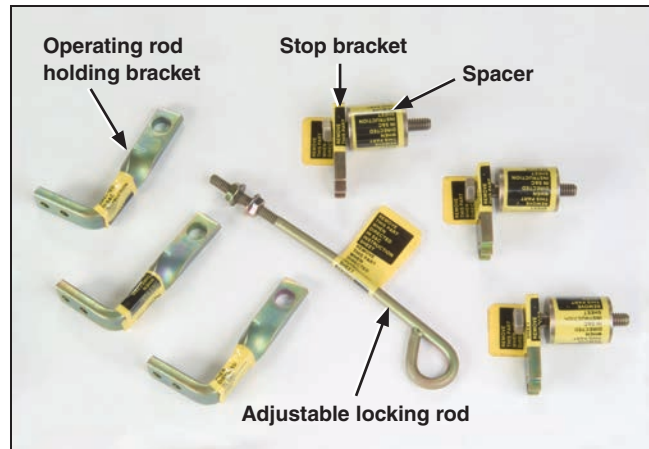
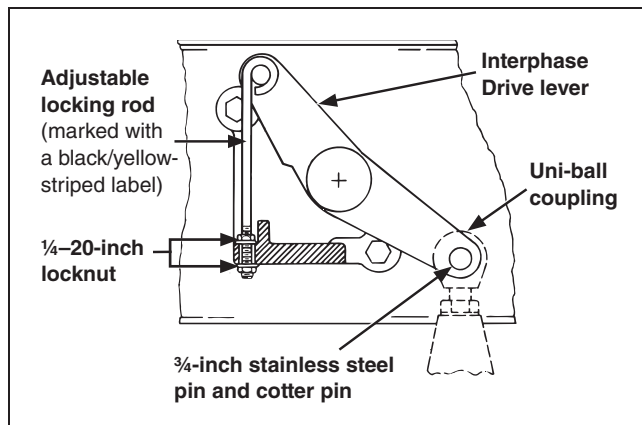

Figure 34. Checking the transition box and high-speed base for these shipping parts.
Figure 36. Making sure the interphase drive lever has been connected to the uni-ball coupling and the adjustable locking rod has been removed.
- The operating rod holding bracket, stop bracket, and spacer have been removed from the interrupter (See Figure 34.)
- The interphase drive lever has been connected to the operator uni-ball coupling (See Figure 36 on page 31.)
- The adjustable locking rod attached to the interphase drive lever has been removed (See Figure 34 and Figure 36 on page 31.)